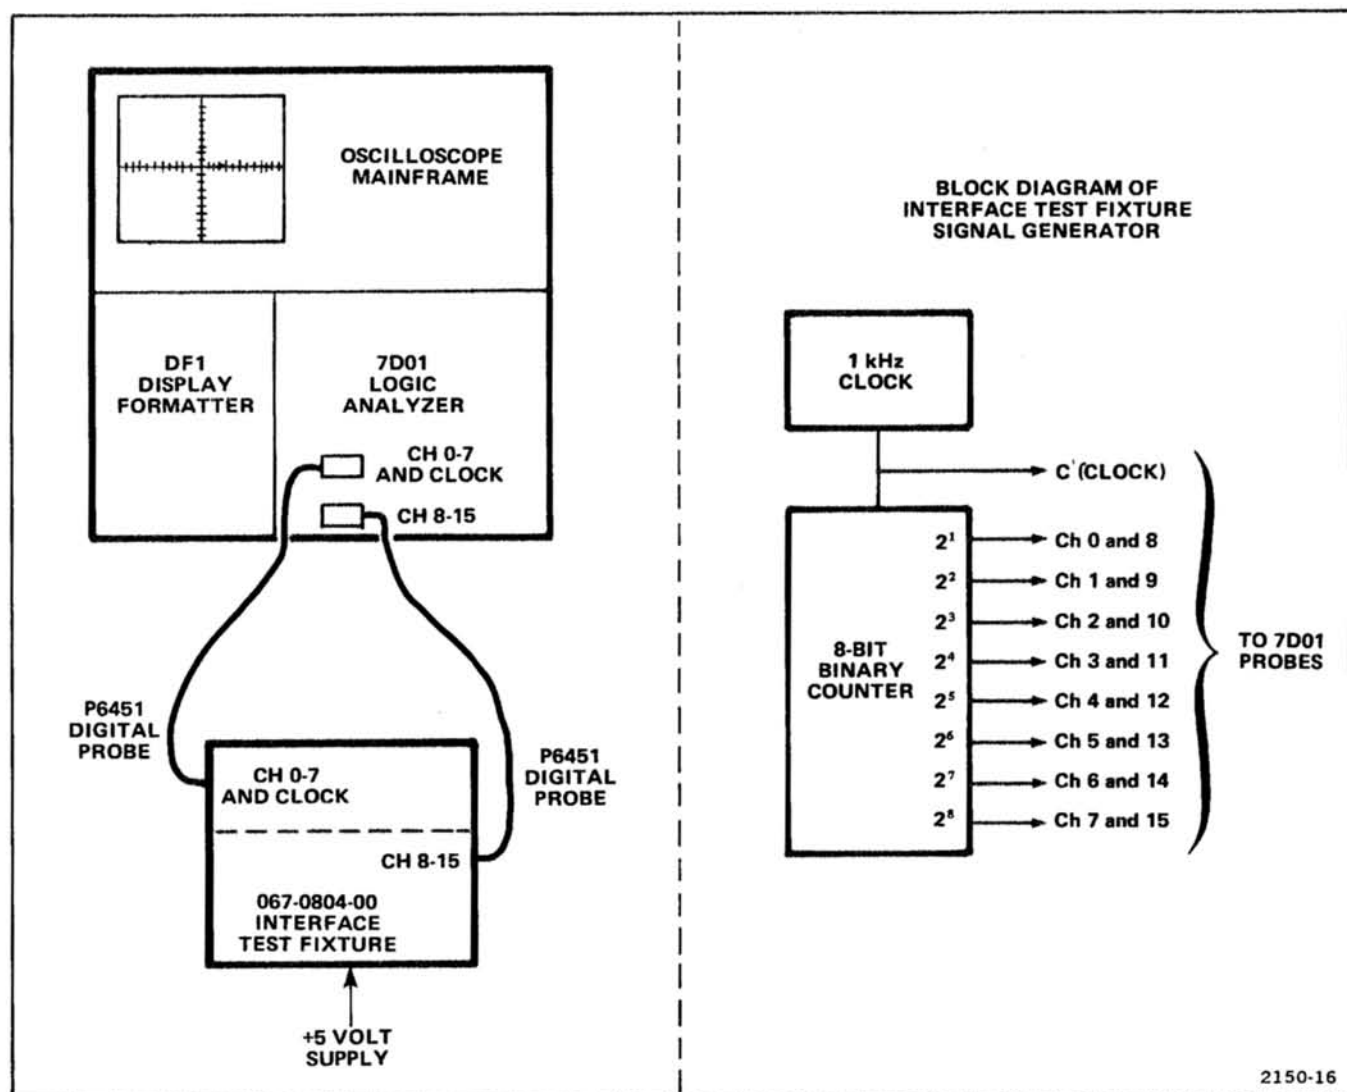

Figure 5-2. Test setup for Performance Check and Adjustment Procedure.
3. Connect the Interface Test Fixture to the 7D01 as shown in Figure 5-2.